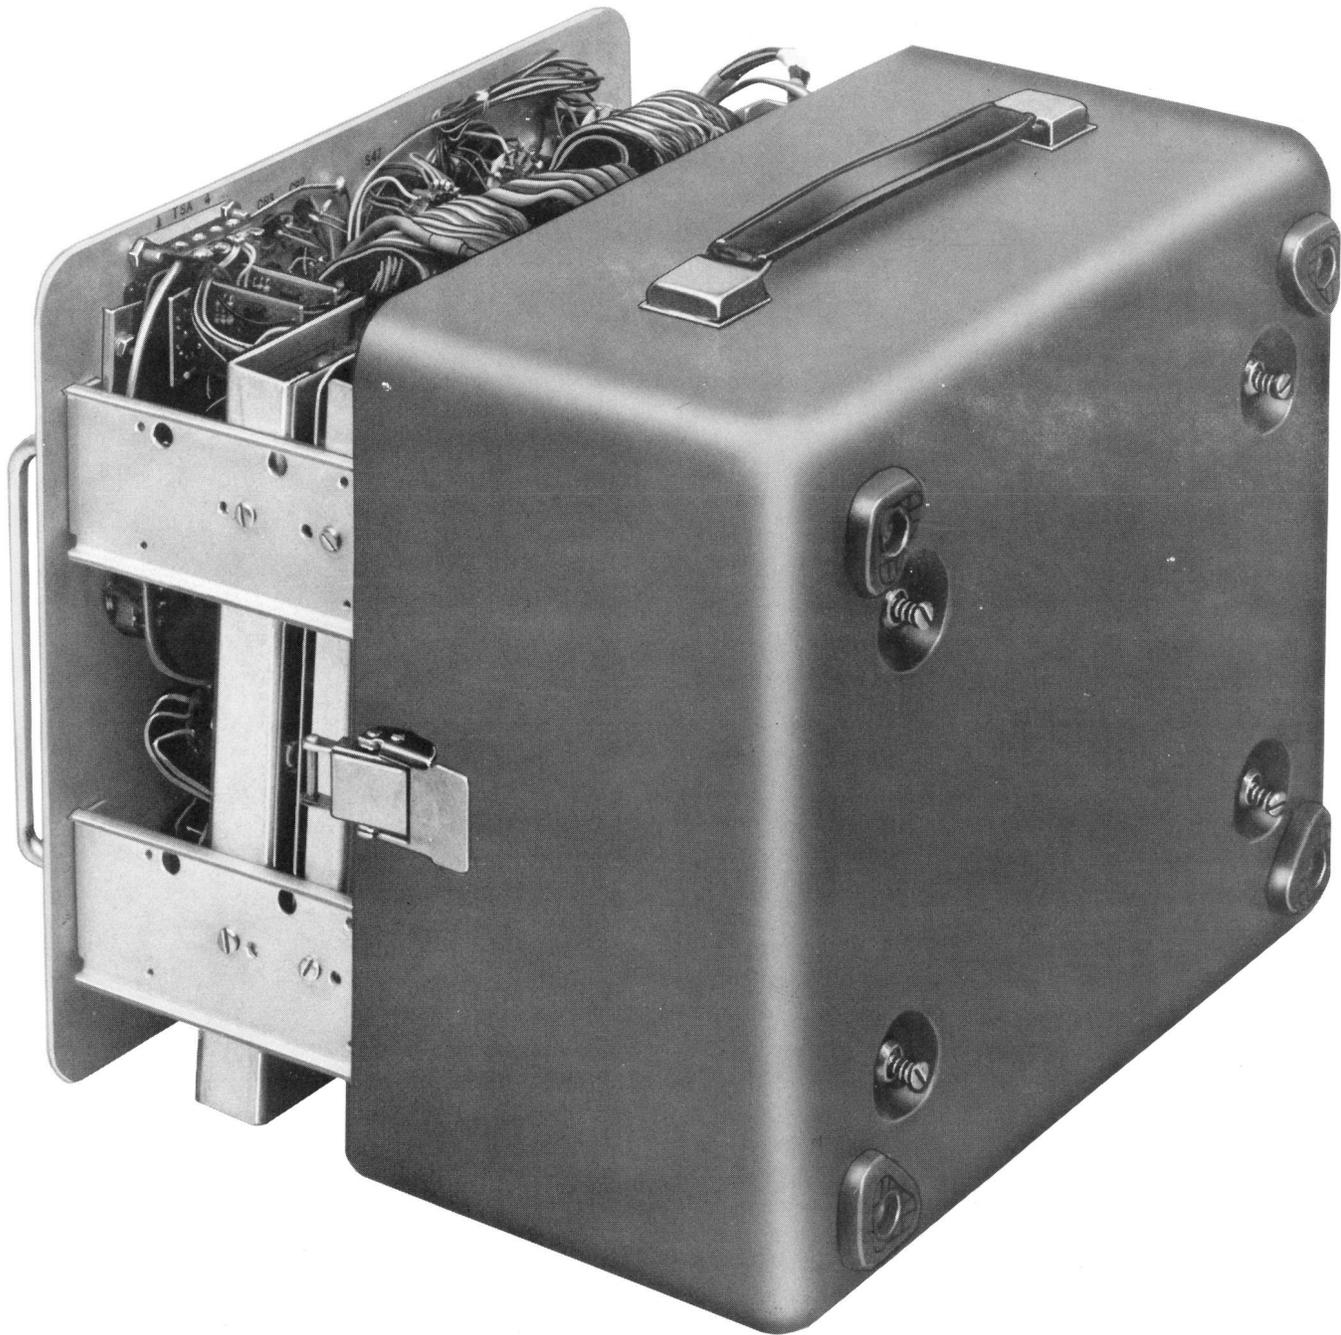
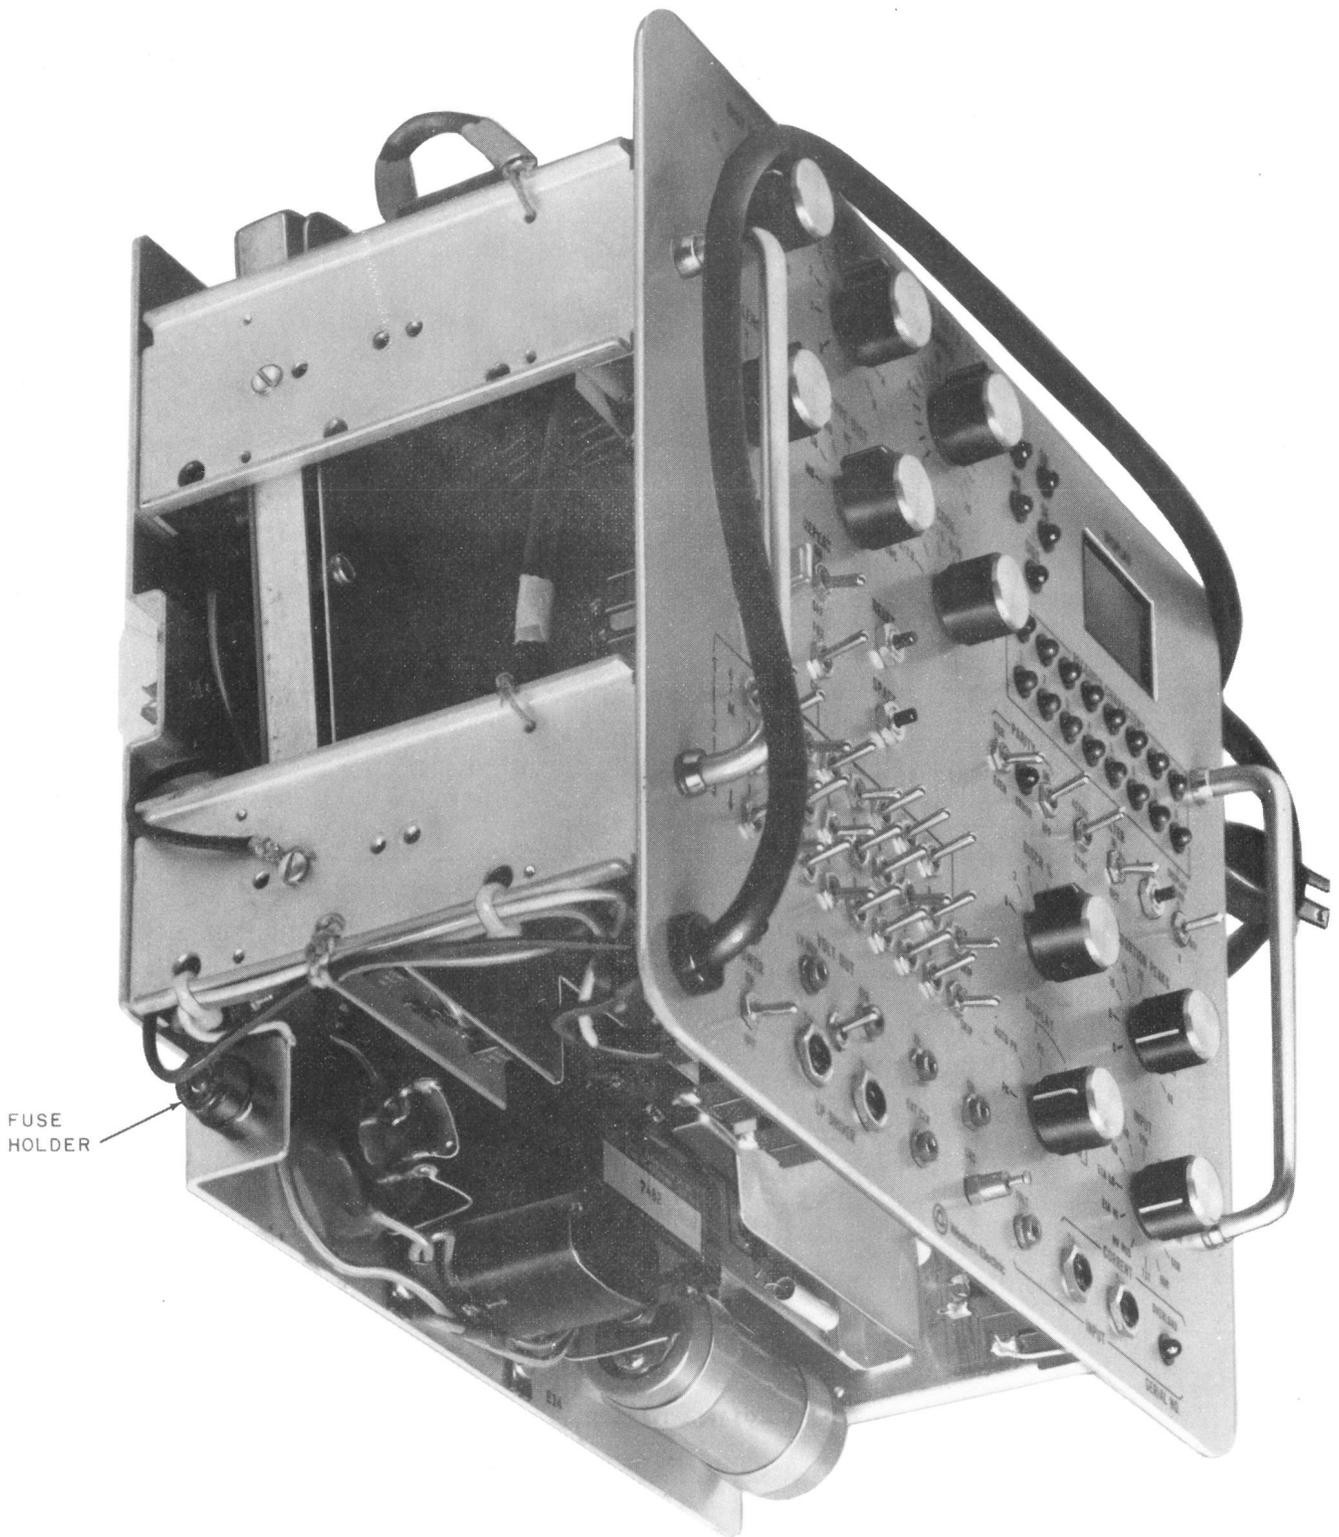

Fig. 1—911NA DTS—Rear Cover Removal
Fig. 2—911NA DTS—Rear Cover Removed
- (1) Remove the front cover.
- (2) Turn the four 1/4-turn fasteners counterclockwise (CCW) (Fig. 1) to release the chassis from the rear cover.
- (3) Place the DTS on its back and, using the two faceplate handles, raise the chassis until it is clear of the rear cover.
- (4) Replace fuse located in fuse holder (Fig. 2) as required.